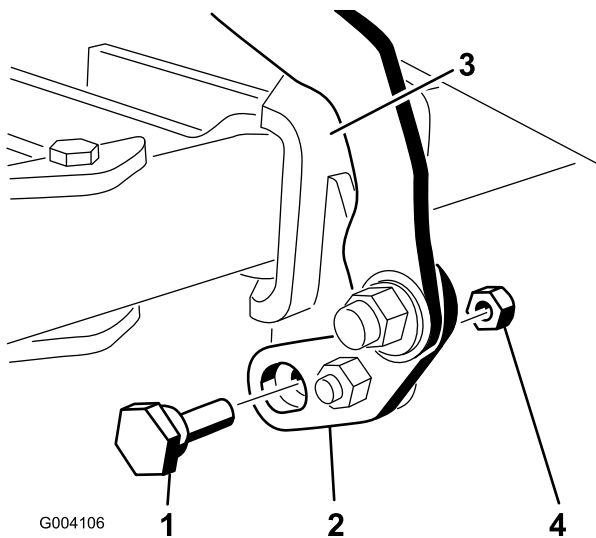
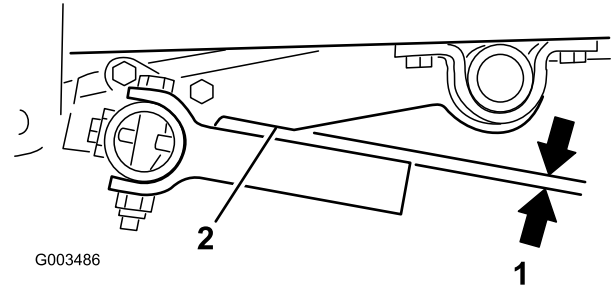

Figure 17
Figure 21
2. Measure the distance between the traction unit frame and the pivot tube as shown in Figure 17.
2. Rotate the eccentric bolt either direction until the toolbar tines are parallel to the notch in the lift arm (Figure 17 and Figure 21).